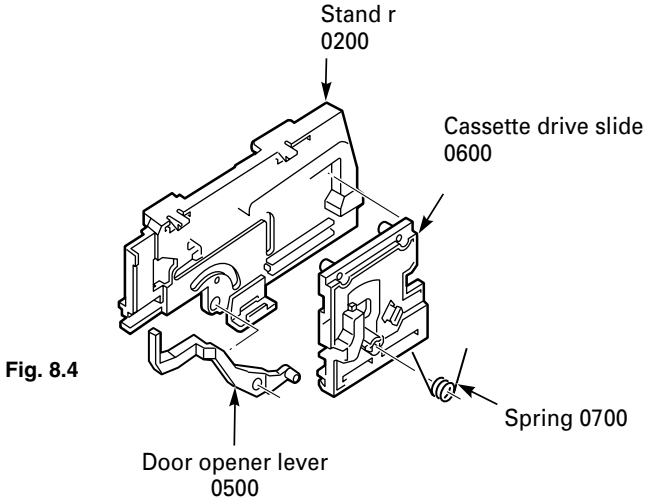

Fig. 8.4
- Unhook the spring (Pos. 0700, Fig. 8.4).
- Move the cassette drive slide (Pos. 0600) fully backwards and remove it from the right stand (Pos. 0200, Fig. 8.4).
- Subsequently, the door opener lever (Pos. 0500) can be removed (Fig. 8.4).